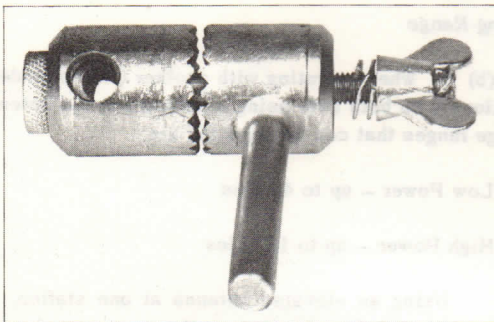

FIG 1 ANTENNA ADAPTER
(1) An 8 foot vertical rod consisting of two, 4 foot sections is mounted in an antenna base. This is connected to the AE terminal of the Aerial Tuning Unit by a pigtail WHICH MUST NOT EXCEED 16 INCHES IN LENGTH. The ATU matches the 8 foot rod antenna to the Radio set C42 and is connected to the radio set by a co-axial cable. The length of this co-axial cable depends on the installation.
(2) An antenna adapter, shown in Fig 1, is provided which permits the 8 foot rod antenna to be adjusted at an angle. Use of this adapter on the move reduces the danger of antenna breakage from overhead obstructions. However, performance will be reduced when the antenna is not vertical.